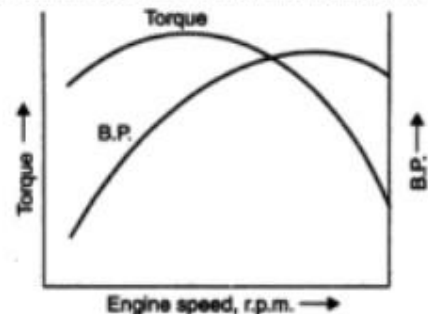

Fig. 1.3. Typical curves of torque and B.P. with speed of an engine.
- The torque increases with the increase in engine speed upto a certain point after which it starts to fall down even though the engine speed continues to increase. The number of r.p.m. at which the torque begins to decrease, depends upon *engine design*. At higher speeds, engine vacuum falls down and less fuel enters the cylinders resulting in lesser force available at the piston and hence the fall in torque as shown in Fig. 1.3.